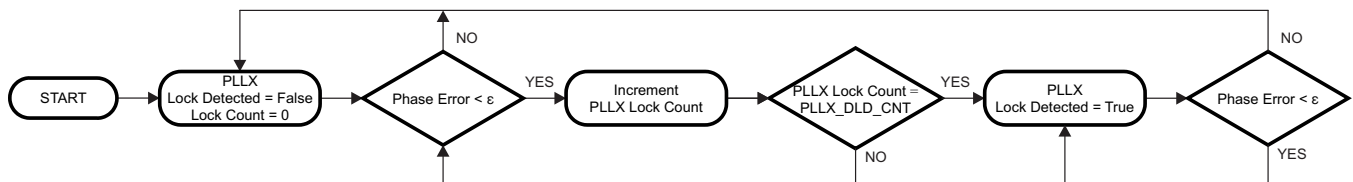

图 13. Digital Lock Detect Flowchart
Both PLL1 and PLL2 support digital lock detect. Digital lock detect compares the phase between the reference path (R) and the feedback path (N) of the PLL. When the time error, which is phase error, between the two signals is less than a specified window size (ϵ) a lock detect count increments. When the lock detect count reaches a user specified value, PLL1_DLD_CNT or PLL2_DLD_CNT, lock detect is asserted true. Once digital lock detect is true, a single phase comparison outside the specified window will cause digital lock detect to be asserted false. This is illustrated in Figure 13.